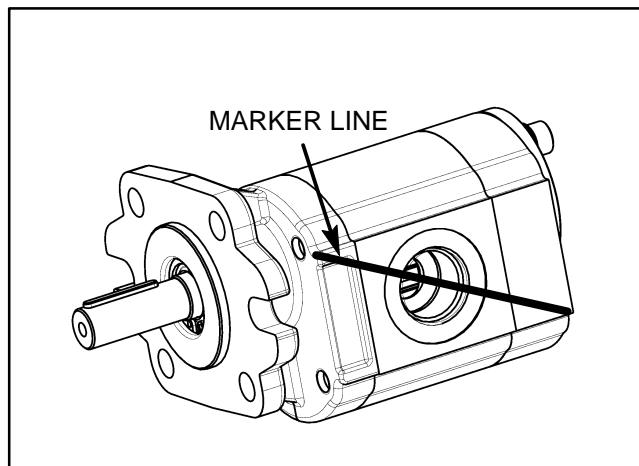

Figure 32
2. Use a marker to make a **diagonal** line across the front thrust plate, body and rear flange for assembly purposes (Fig. 32).
**NOTE:** When assembling the pump, check the marker line on each part to make sure the pump components are properly aligned during assembly (Fig. 32).
**IMPORTANT: When installing drive shaft into front cover, make sure that shaft seal (item 2) is not damaged.**